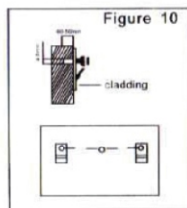

Figure 10
(2) knock two plug bolts slightly into the open holes (shown in figure10) , then fit two claddings into plug bolts and wind the nuts, Make sure that the claddings are fastened to avoid that it may drop from the wall.